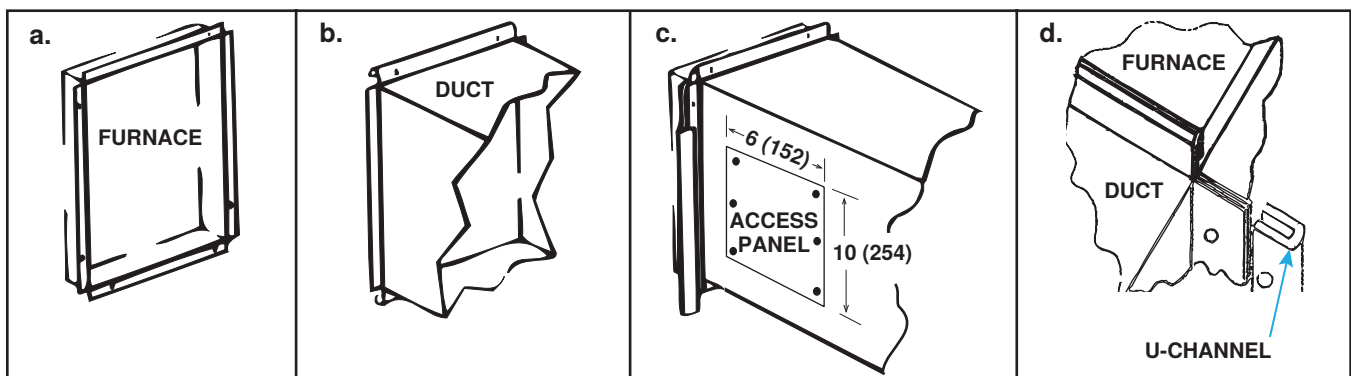

Figure 7. Connecting Ductwork to Furnace
- **Supply air duct/furnace horizontal connection:** Connect the duct to the furnace in accordance with the following steps shown in Figure 7:
- **Access panels:** Install removable access panels (see Figure 7) on both the upstream and downstream sides of the furnace. The access panels must be accessible when the furnace is in service and should be a minimum of 6 × 10 inches (152 × 254 mm) in size so smoke or reflected light may be observed inside the casing to indicate the presence of leaks in the heat exchanger. Ensure that the access panels are installed in such a manner so as to prevent leakage.